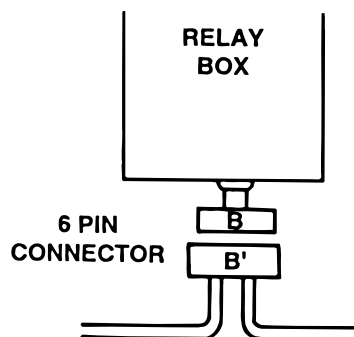

Figure 5-4.
2. Disconnect B and B'. See figure 5-4. Leave all other connectors connected.